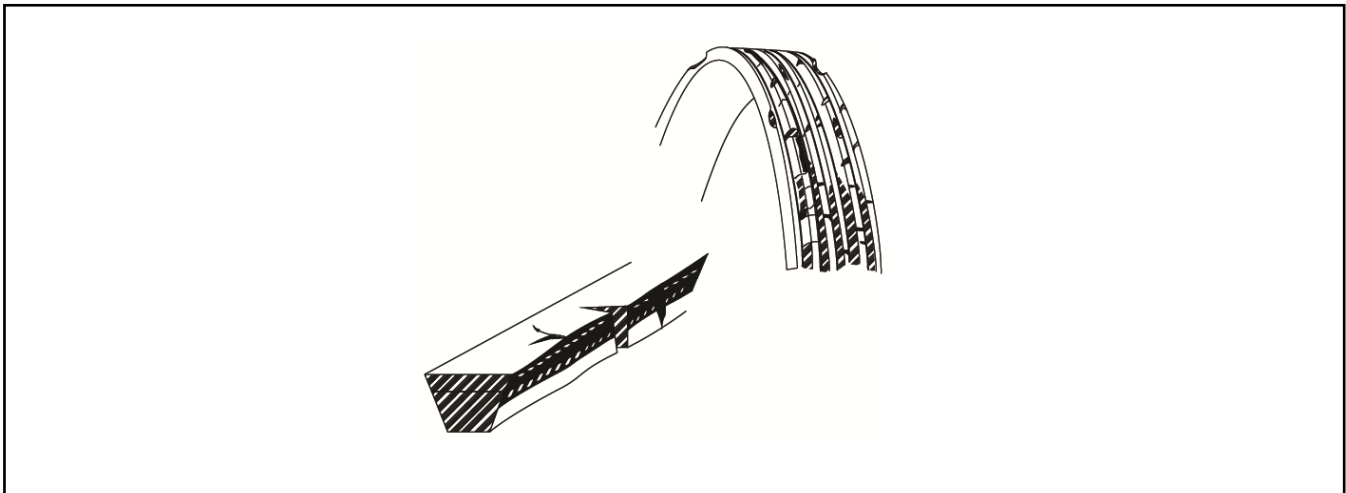

Figure 20 Drive Belt Damage
3. Inspect the drive belt. Look for signs of cracking, separation, cuts, or other damage. See Figure 20.